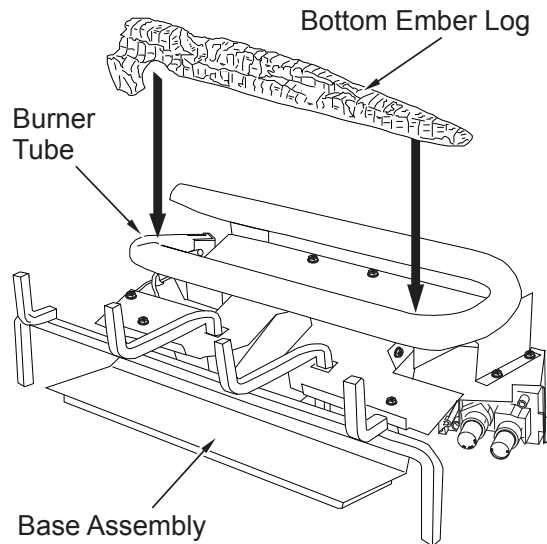

Figure 50 - Installing Bottom Ember Log
1. Place bottom ember log on base assembly as shown in **Figure 50**. The log should fit over the left side of the burner and rest in the middle of the U-burner.